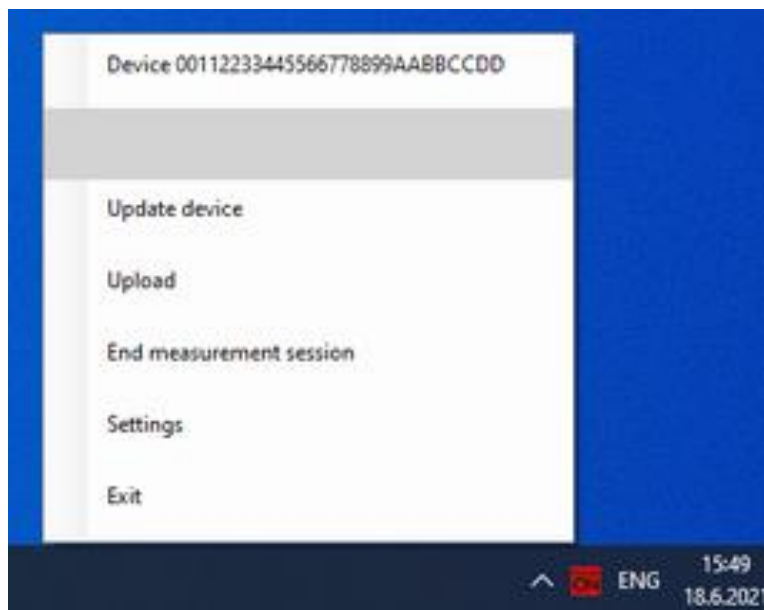

Figure 6-13. DTS menu showing the connected wrist device ID
2. By clicking the Upload action on the context menu (Figure 6-13).
The DTS application will automatically try to update the wrist device upon connection. Additionally, the update can be launched from the context menu (Figure 6-13). When the device update is started, the user should not unplug the device from the computer. After a successful update, the device will reboot. Thus, the user should patiently wait until the device is back online.
The device will start charging automatically when connected to the computer. The user can view the device battery level by clicking the device identifier in the DTS menu (Figure 6-13). However, the charge level will not update automatically. Thus, the user should not leave the window open and expect to see the live progress of the device charge state.